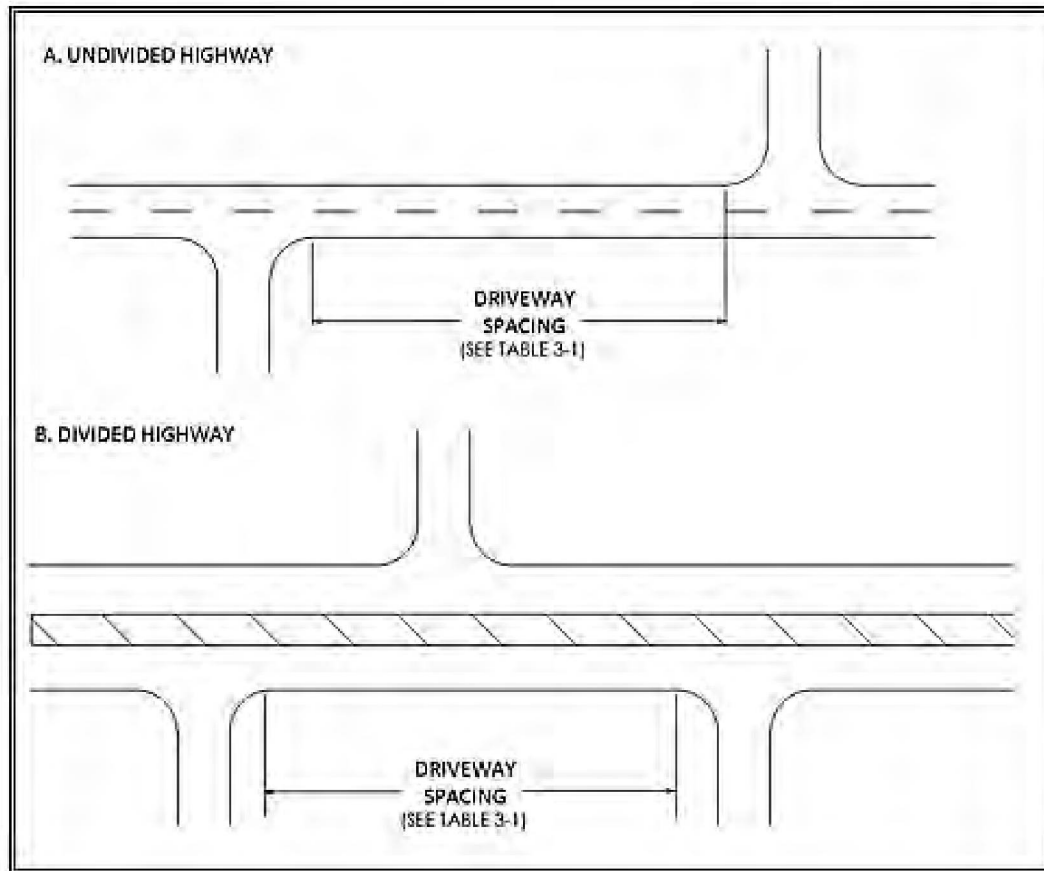

Figure 3-2 Spacing of Offset Driveways
Driveways should align with other driveways located on the opposite side of the State Highway. If offset driveways cannot be avoided, the same driveway spacing criteria as given in Table 3-1 should be provided, to provide space for left turns. Figure 3-2 shows how the spacing is measured for spacing offset driveways onto undivided highways. Spacing is from Radius Return to Radius Return.
If the State Highway involved is a divided facility and the driveways do not align with a median crossover, the driveway spacing would only apply to the adjacent driveway located on the same side of the Highway as shown above in Figure 3-2 (B).